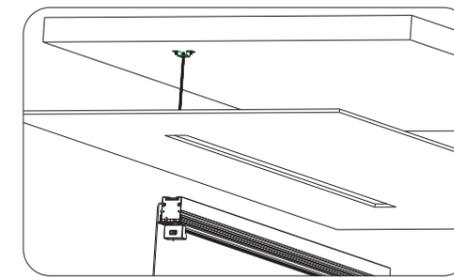

Figure11
- 2)Loose the screws of power box and take out the power box (note: the power box must be buttoned on the hanger of bracket according to figure 11, please put up and move back the power box to take out), because the power cord has a limit, please do not draw it strongly.